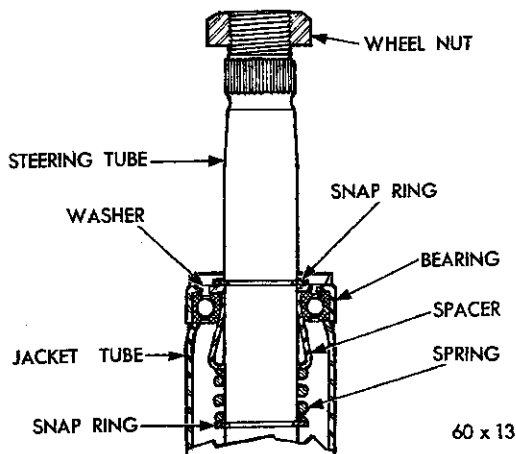

Fig. 24—Jacket Tube Installation (Imperial)
(15) Remove the retainer snap ring (Fig. 24) from the groove in the steering tube at the top of the bearing using pliers Tool C-3229.
(16) Remove the jacket tube shield to allow access to the column tube clamp and remove the screws attaching the steering jacket tube clamp at the instrument panel and remove the clamp.
(17) Raise the carpet to expose the floor panel. Move the rubber grommet up on the jacket column.
(18) Remove the screws attaching the rubber dust boot at the firewall. (On TY-1 Models remove the floor inspection panel.)